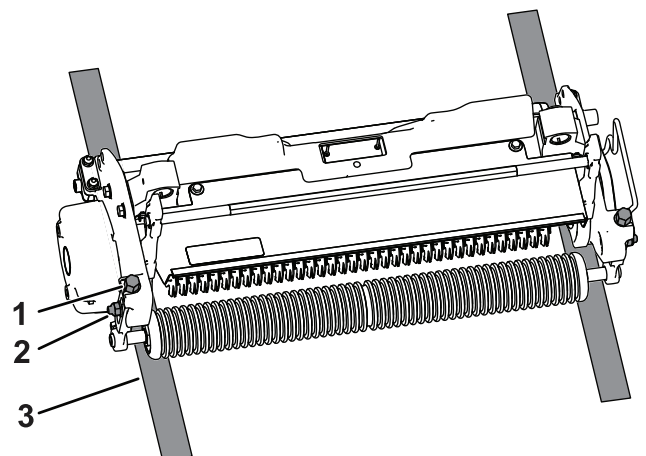

**Figure 8**
3. With the rollers contacting the level surface, loosen both flange nuts (Figure 8).
4. Rotate the height-of-cut adjusting bolts until both ends of the dethatcher are near the level surface (Figure 8).
2. Place a gauge bar, which is the thickness of the desired height of blade above ground, under each end of the dethatching unit (Figure 8).